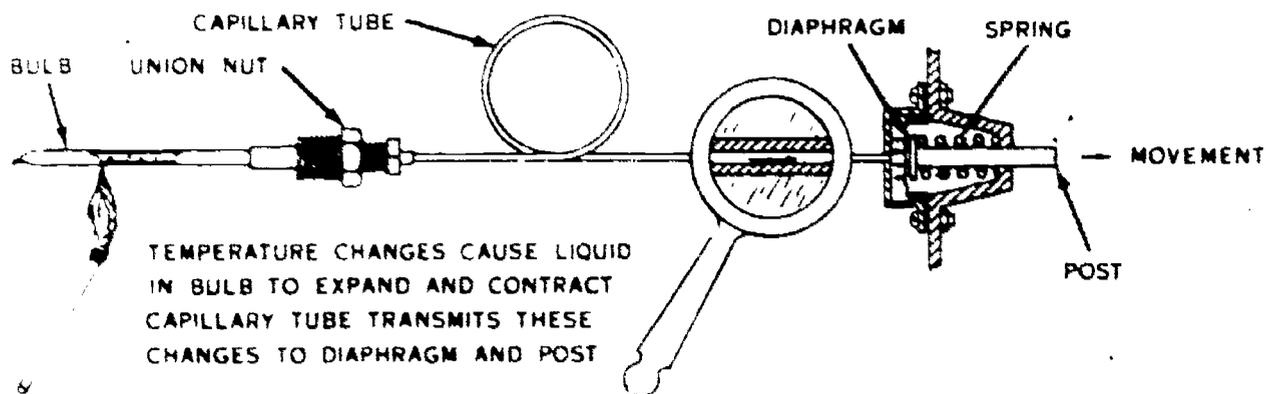

Figure 25. Remote Bulb-Sensing Element
**Remote Bulb Elements.** Are used when temperatures are to be measured in tanks, pipes, ducts, or other inaccessible locations. These elements have three parts: the bulb, or temperature sensitive portion; the capillary, which transmits the variable temperature signal over its length; and the diaphragm or operating head, which translates the signal into movement, figure 25.